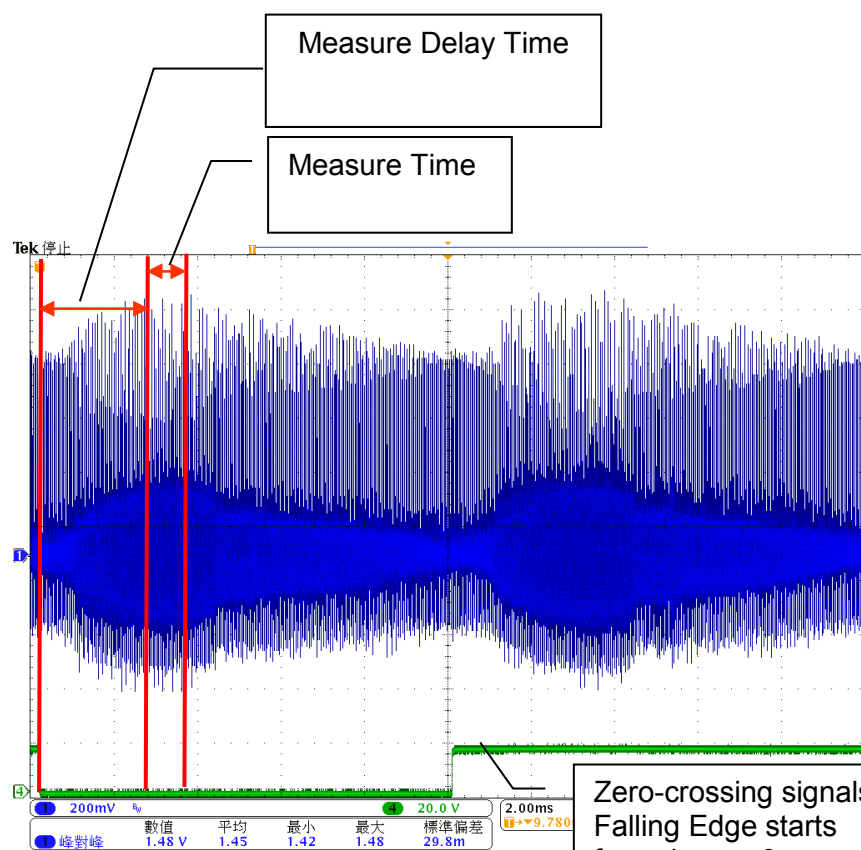

Figure C-3
- b. Figure C-3 shows the signals that had filtered out 50Hz fundamental frequency. Using the above input AC voltage to do zero-crossing trigger signal (the Falling Edge in green curve starts from degree 0). It can set the measurement start of A800068 on the system and measurement time. As the table shown on the right of Figure C-3, the measured readings are varied with deferent delay times (the measurement time is fixed to 200us in the table). The delay and measurement time can be adjusted by DUTs to get the maximum CMN.